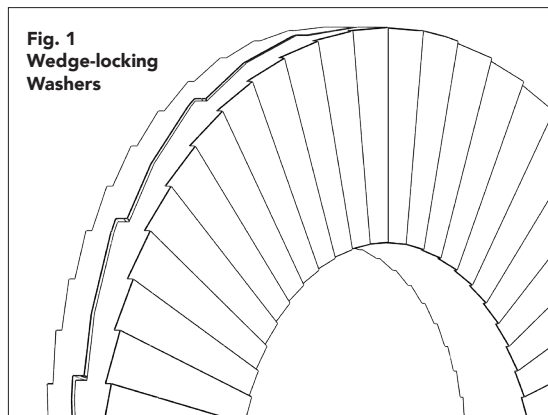

Fig. 1
9. Wedge-locking washers are used in this product. One washer consists of two lightly glued together individual discs, which may detach from each other. This is no problem, as the glue only serves as an assembly aid. If the discs are separated, simply put them back together with the coarsely grooved side to each other, as can be seen in Fig. 1!